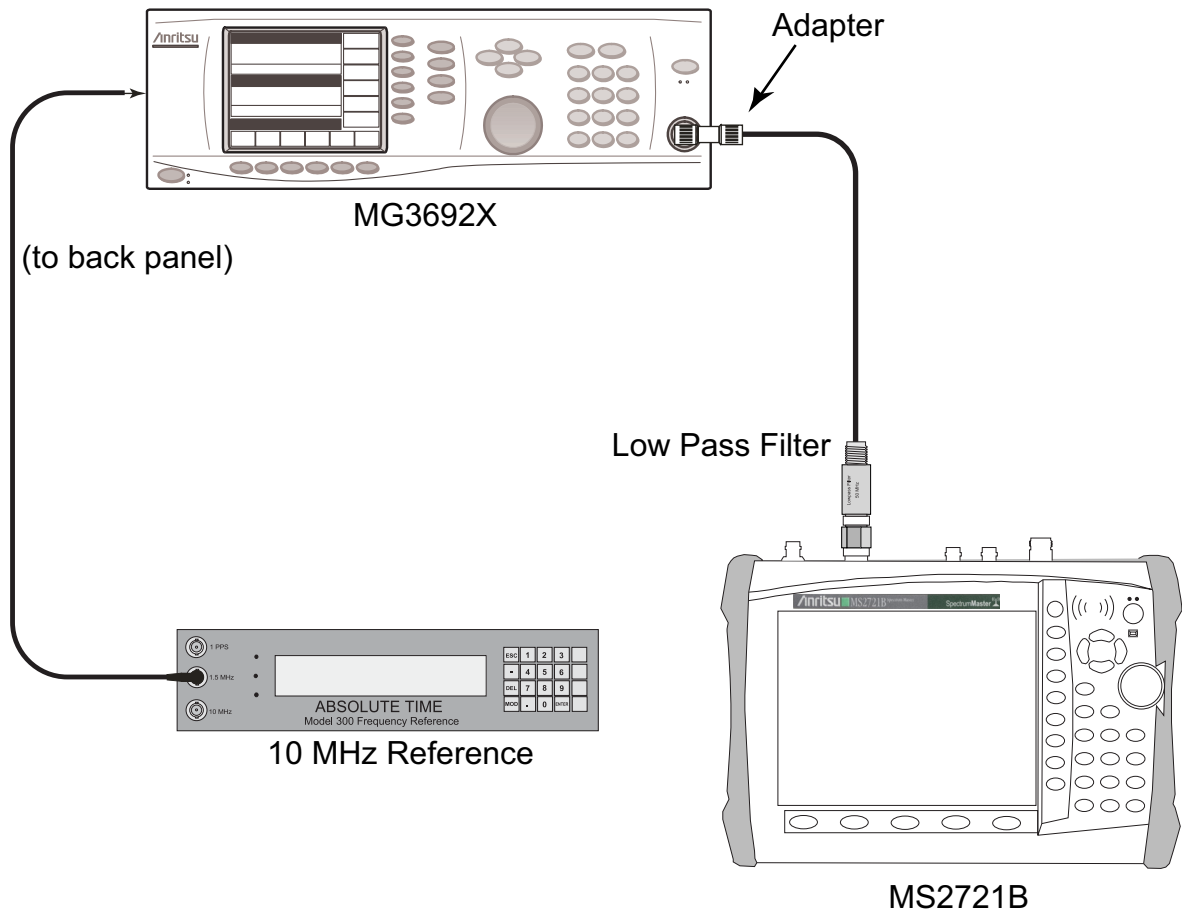

Figure 2-4. Spectrum Analyzer Second Harmonic Distortion Test Setup
2. Connect the synthesized signal generator output to the Spectrum Analyzer RF In connector of the MS2721B through the 50 MHz lowpass filter, as shown in Figure 2-4.
5. Press the **Shift** key and then the **Trace** (5) key. Press Trace A Operations and set # of Averages to 5.